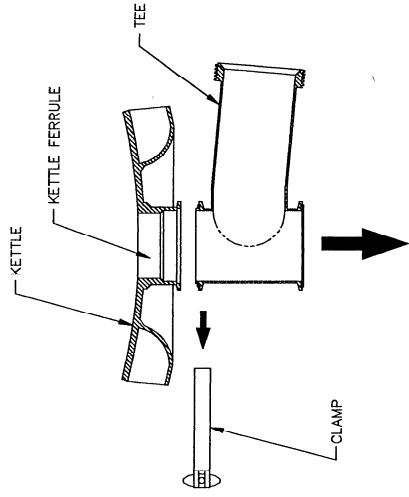

FIGURE 3
4. REMOVE THE TOP CLAMP FROM THE TEE AND THEN REMOVE THE TEE AS SHOWN IN FIGURE 3.